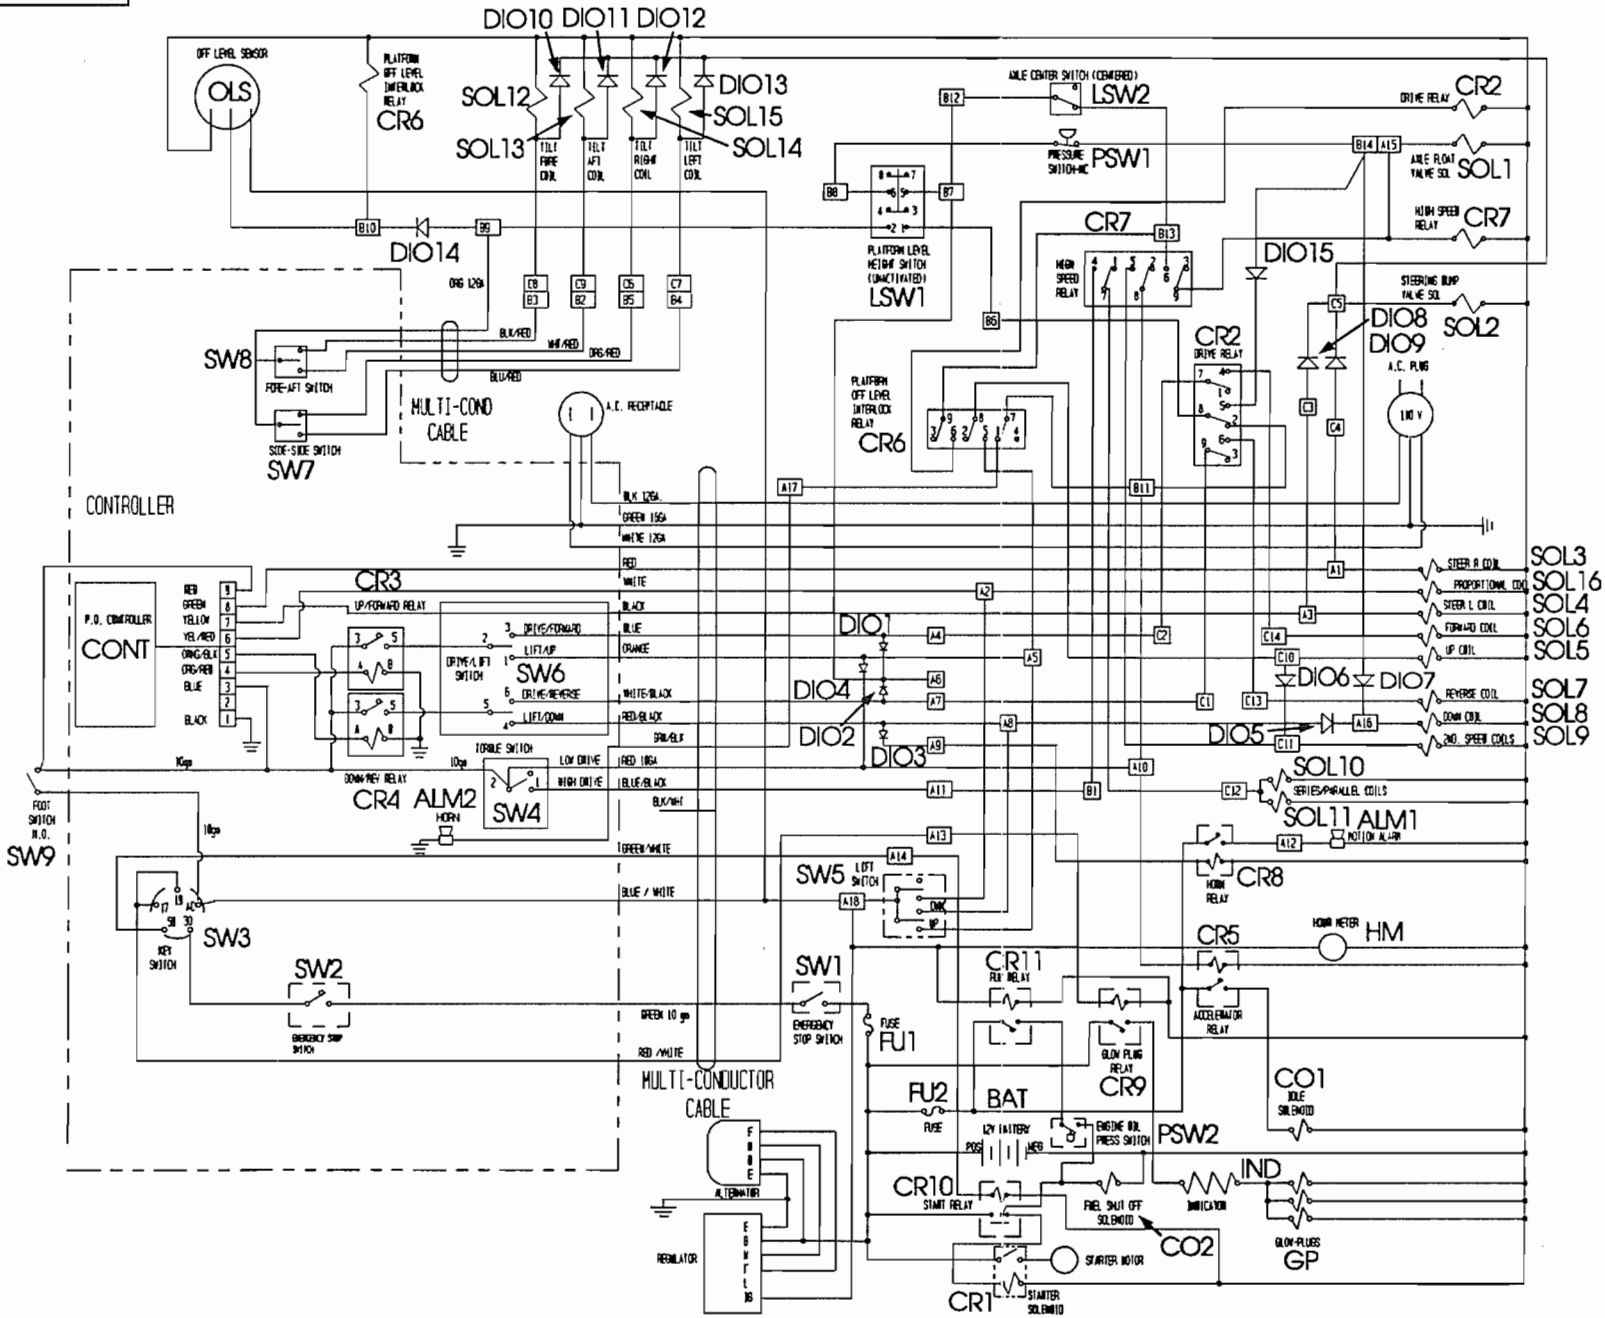

Figure 6-2: Electrical Schematic, Diesel; For Machines With Serial Numbers to 9159
- Figure 6-2, Electrical Schematic, Diesel;